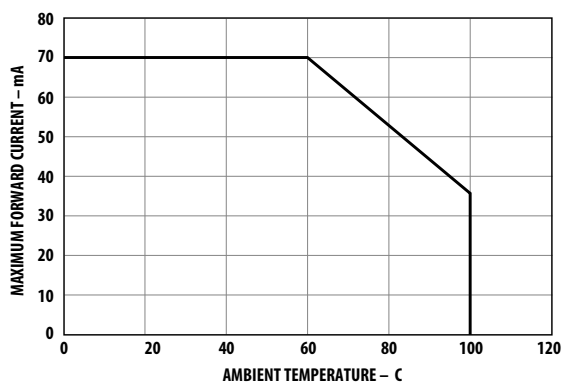

Figure 4. Maximum forward current vs. ambient temperature. Derated based on $T_{jMAX} = 125^{\circ}C$, $R_{\theta JA} = 300^{\circ}C/W$.
- Derate linearly as shown in figure 4.